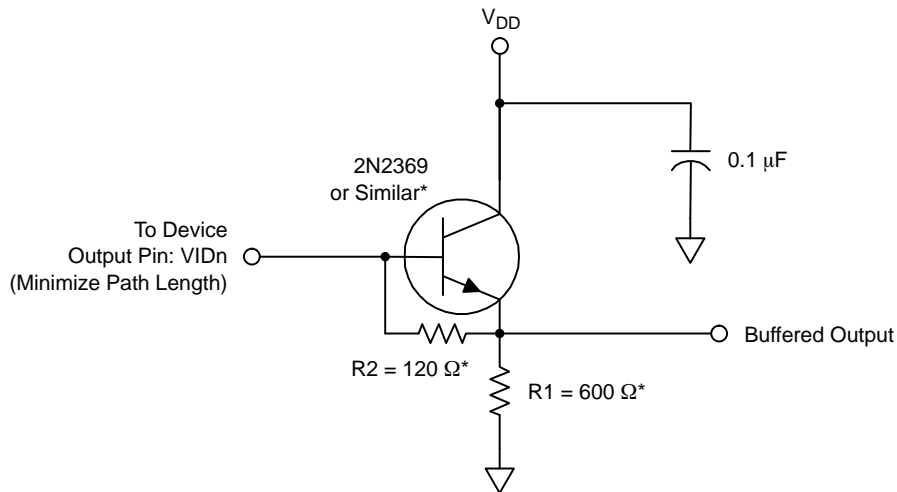

Figure 8. Typical Output Bias/Buffer Circuit
1. A current sink must be supplied for each output. Load capacitance should be minimized so as not to limit bandwidth. See Figure 8. Choose values optimized for specific operating frequency, but R2 should not be less than 75 Ω.